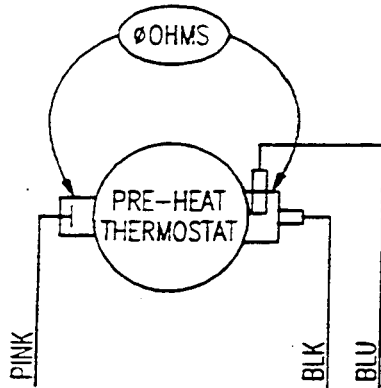

Figure 6-19. Preheat Thermostat
7. Refer to Figures 6-19 and 6-20, and connect the ohmmeter leads across the preheat thermal switch. When the steam generator has cooled, check the ohmmeter reading.